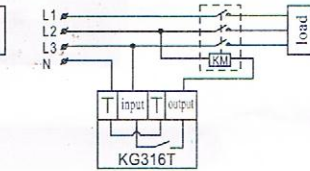

Figure 5 Three-phase working mode (conductor's coil voltage is AC380V)
b) If the control conductor's coil voltage is AC 380V 50Hz, then the mode of connection is shown as in Figure5.